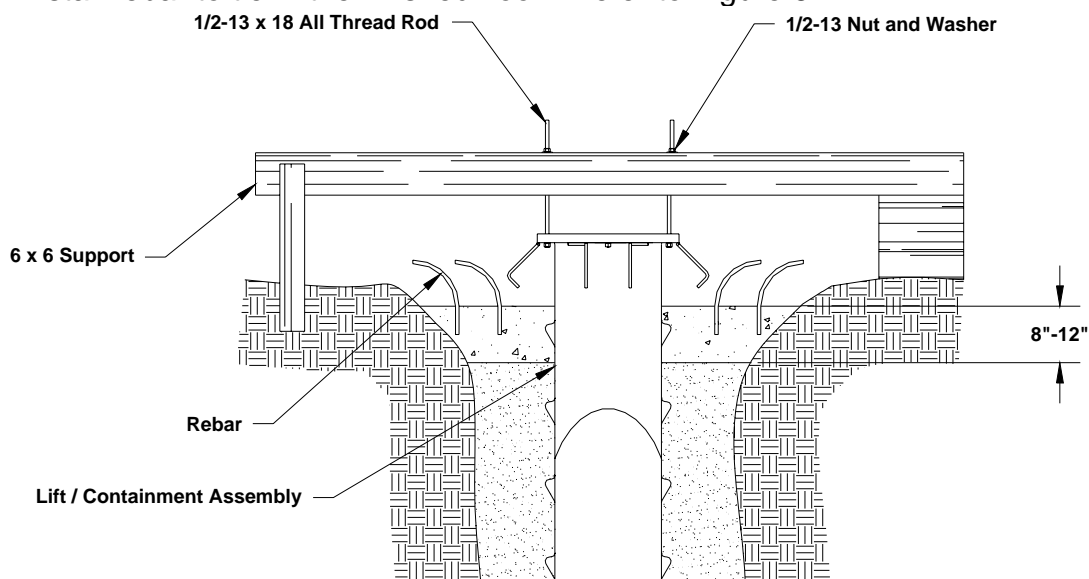

Fig. 6
11. Pour 8" to 12" of concrete around the top of the lift / containment assembly and install rebar to tie in the finished floor. Refer to Figure 6.